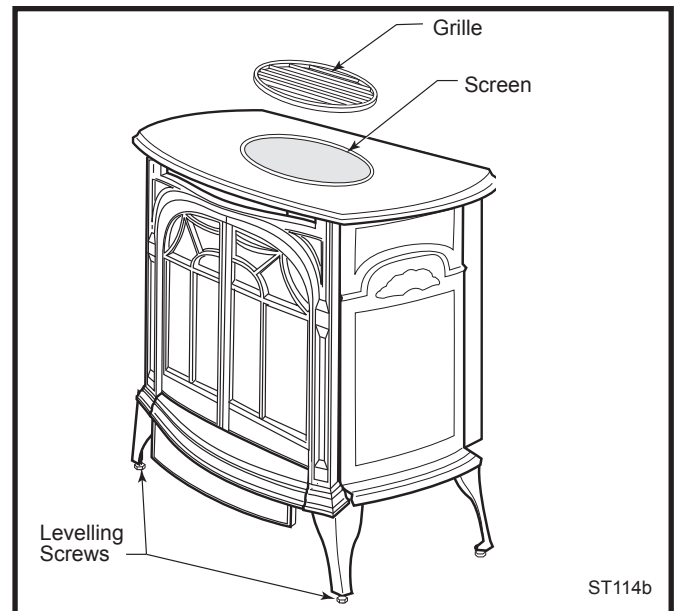

Fig. 18 Install the Top Plate and Grille.
3. Lay the screen and top grille in place. (Fig. 18)